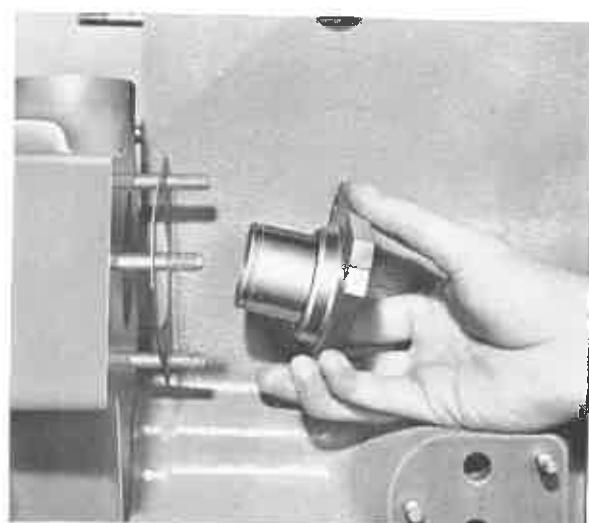

Fig. N.11. Removing Fuel Pump Gear Hub Carrier.
9. The fuel pump gear hub carrier may now be withdrawn from the rear of the timing case (See Fig. N.11).